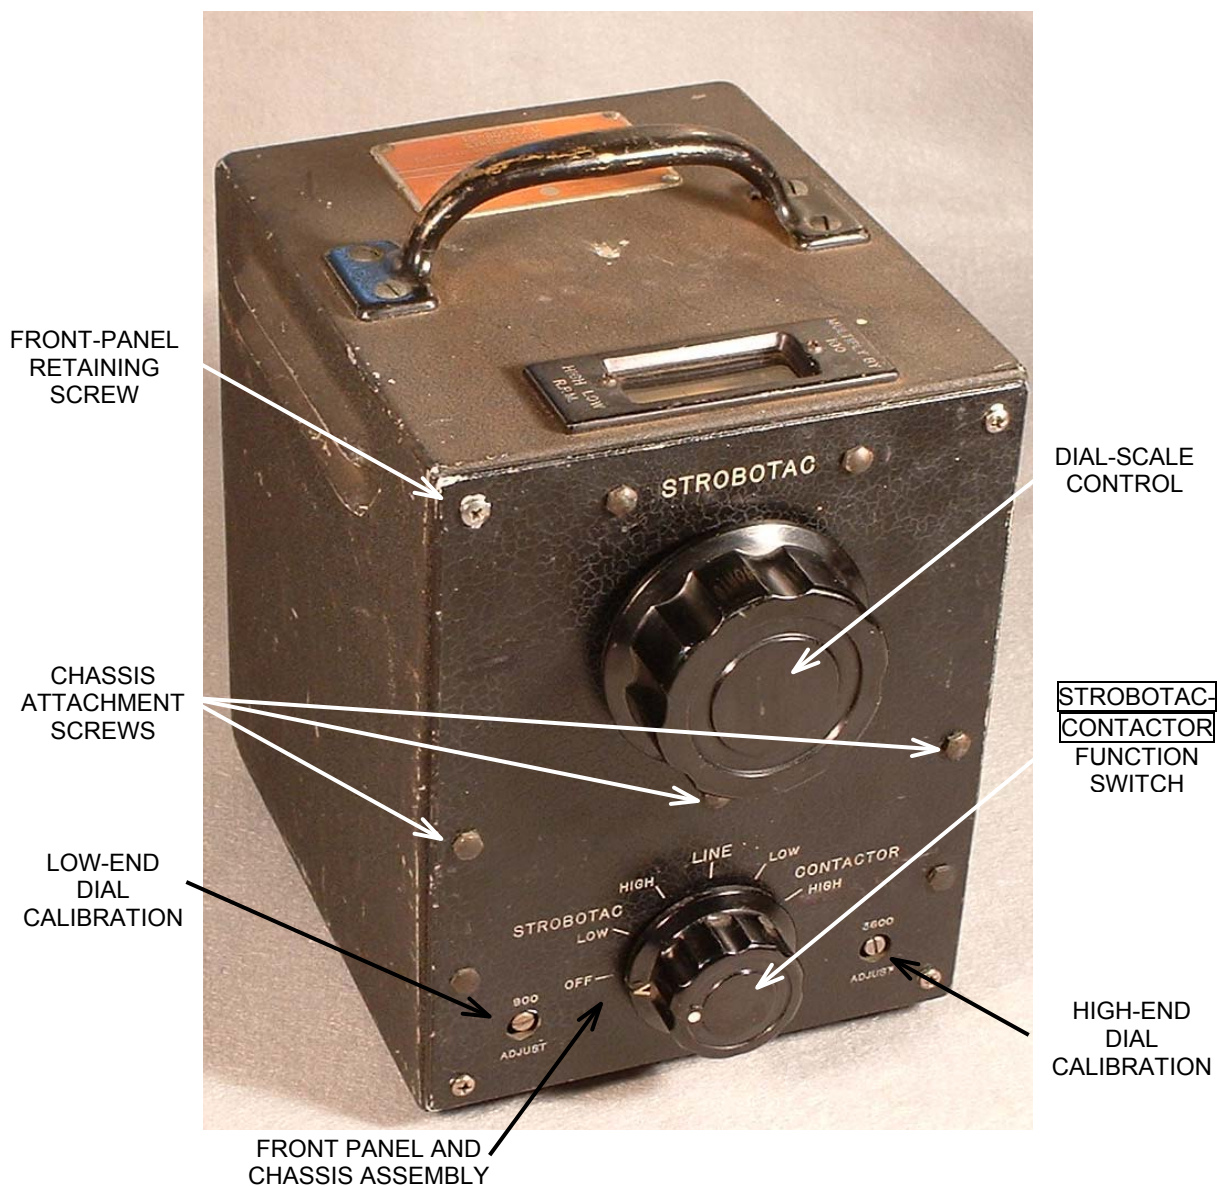
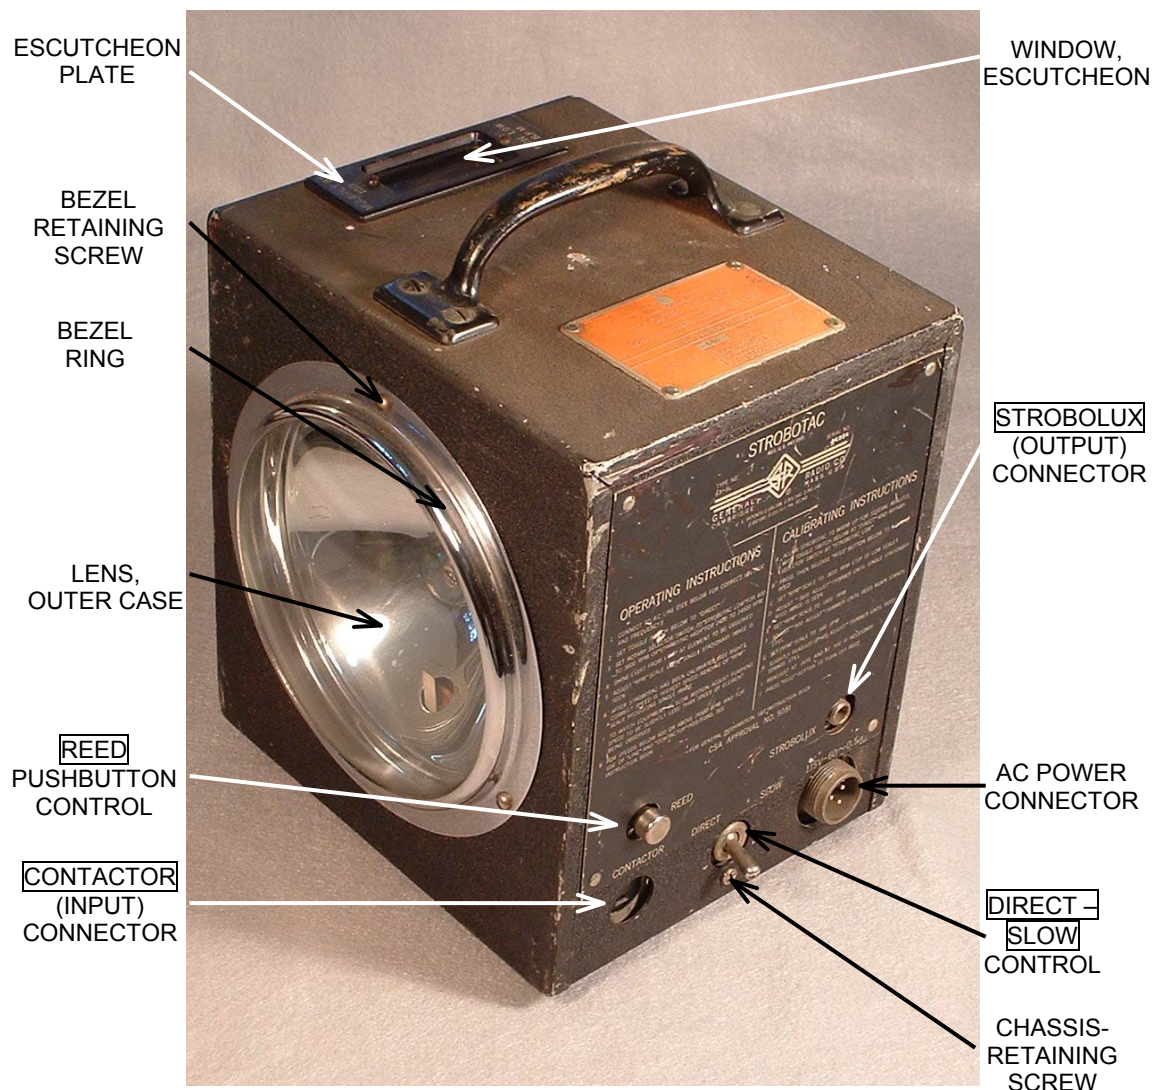

Figure 4-6. TS-805A/U Stroboscope Front View.
Figure 4-7. TS-805A/U Stroboscope Rear View.
- (1) Remove the four front-panel retaining screws (fig. 4-6).
- (2) Remove the chassis retaining screw (fig. 4-7).
- (3) Remove the chassis from the case.
#### 4-11. Dial Lamp Replacement (fig. 4-6 and 4-13)
- (2) Remove the chassis retaining screw (fig. 4-7). Remove the chassis from the case.
- (4) Rotate the dial-scale control (fig. 4-6) fully counterclockwise.
- (5) Slide the lamp holder and lamp straight back toward the rear of the chassis. There should be enough clearance to remove the lamp holder and the
(4) Remove screw (12), then remove rear section of dial-scale control R108.
(5) Remove insulator (13) from rear section of dial-scale control R108.
(6) Loosen the setscrew on the dial-scale control knob (fig. 4-6), then remove the knob.
(2) Install two sleeve spacers (22) and dial drive assembly (21).
(3) Install three sleeve spacers (20) and flat washers (19).
(4) Install three lockwashers (18) and three hexagon nuts (17).
(5) Install dial-scale control knob (fig. 4-6) and tighten its setscrew.
(1) Loosen the setscrew on the STROBOTAC-CONTACTOR switch knob.
(2) Remove the knob from the switch shaft.
(3) Remove the four front-panel retaining screws (fig. 4-6) and the chassis retaining screw (fig. 4-7) at the lower rear of the case. Remove the chassis from the case.
(4) Remove the three chassis retaining screws (fig. 4-6) and separate the panel and the front terminal board from the chassis.
(5) Place the panel on the bench with the front terminal board facing up.